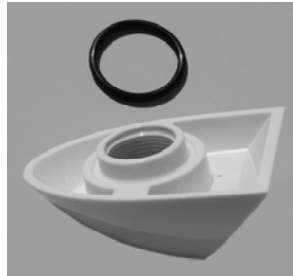
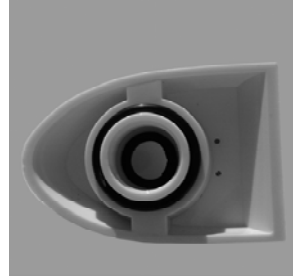

Figure: 10
Figure: 11
3. Locate the bailer housing and o-ring (Figure 10). Place the o-ring over the neck of the bailer and push it down completely (Figure 11).